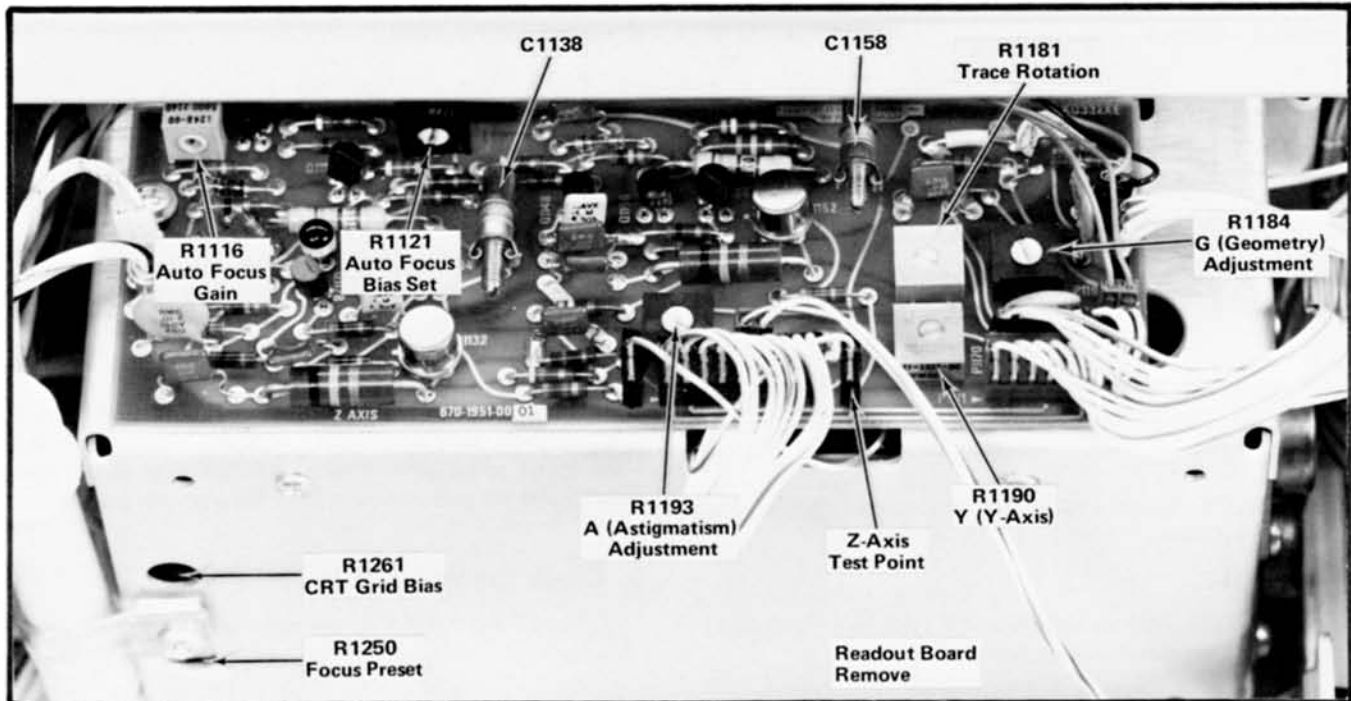

Fig. 2-2. Location of Display and Z Axis adjustments and test points.
d. Connect a 10X probe from the test-oscilloscope to the Z-Axis test point (see Fig. 2-2) and the probe ground lead to chassis ground.
g. ADJUST-CRT Bias adjustment R1261 (see Fig. 2-2) until the trace on the 7613 (R7613) is just extinguished. Set INTENSITY for a viewable trace.
a. Set the test-oscilloscope for 10 V/division, DC input, and connect its 10X probe to the 7613 (R7613) Z-Axis test point (see Fig. 2-2) and probe ground lead to chassis ground.
f. ADJUST—FOCUS control and A (astigmatism) adjustment R1193 (see Fig. 2-2) to obtain best display definition.
d. ADJUST—Trace Rotation adjustment R1181 (see Fig. 2-2) to align the trace with the center horizontal line.
d. ADJUST—Y-Axis adjustment R1190 (see Fig. 2-2) to align the trace with the center vertical line.
l. ADJUST—Geometry adjustment R1184 (see Fig. 2-2) for minimum bowing of time markers. Adjustment may have to be compromised to obtain less than 0.1 division bowing and tilt everywhere within the graticule area.